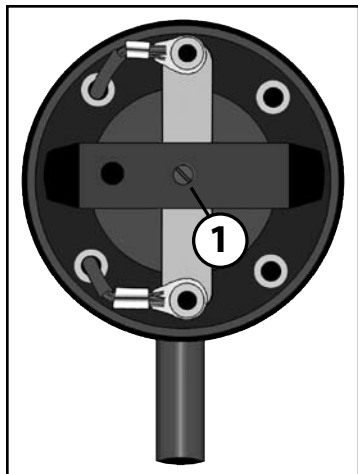
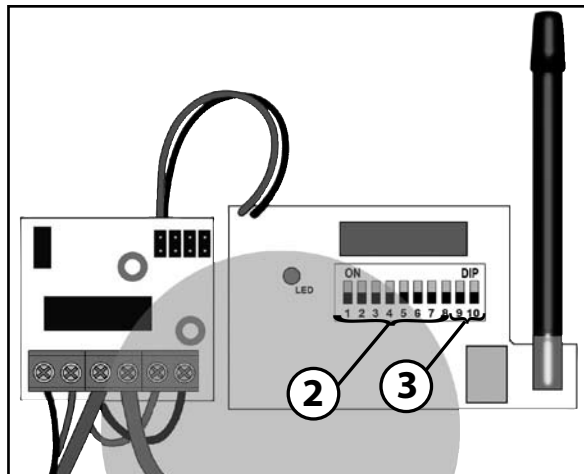

figure 2
figure 3
1. Open the transmitter box. The first thing you will see is the air switch (Figure 2). Directly below the air switch is the transmitter's radio (Figure 3).
2. Locate the dip switches on the radio (2)(3).
3. Switches 1-8 are for the frequency setting (256 combinations). If needed, set switches 1-8 (2) to match the eight switches in the receiver.
4. Switches 9 and 10 (3) are for the channel setting on the transmitter. Use these to set the tone you prefer. The four channels are listed in the table on page 5.
- Adjust the screw on the air switch in the transmitter (Figure 2) (1) by turning it clockwise. This will increase the sensitivity.
- Adjust the screw on the air switch in the transmitter (Figure 2) (1) by turning it counter-clockwise. This will decrease sensitivity.